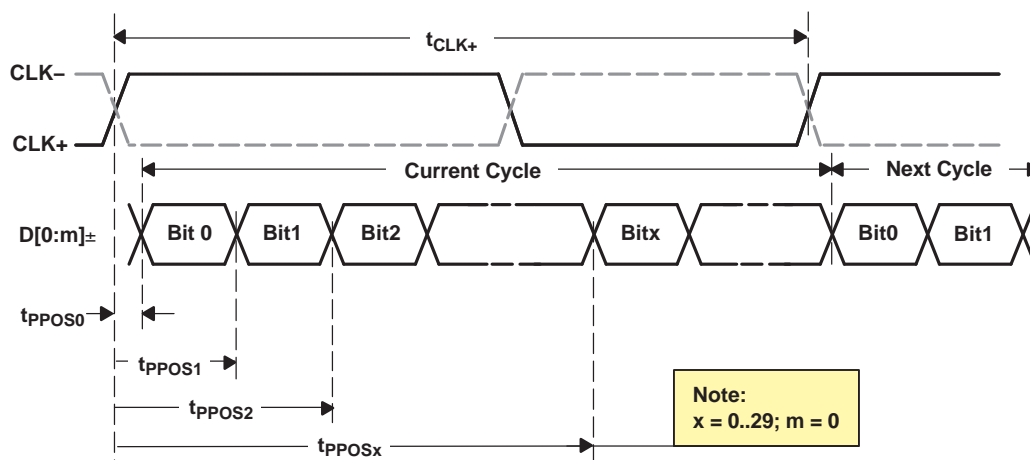

Figure 11. t_{SK(0)} SubLVDS Output Pulse Position Measurement
| t _{PPOSX} Output pulse position, serial data to ↑CLK; see (1)(2) and Figure 11 | x = 0..29, f _{PCLK} = 15 MHz; TXEN at V _{DD} , V _{IH} = V _{DD} , V _{IL} = GND, R _L = 100 Ω, test pattern as in Table 8 ⁽³⁾ | $\frac{x}{30 \cdot f_{PCLK}} - 330 \text{ ps}$ | | $\frac{x}{30 \cdot f_{PCLK}} + 330 \text{ ps}$ | ps |